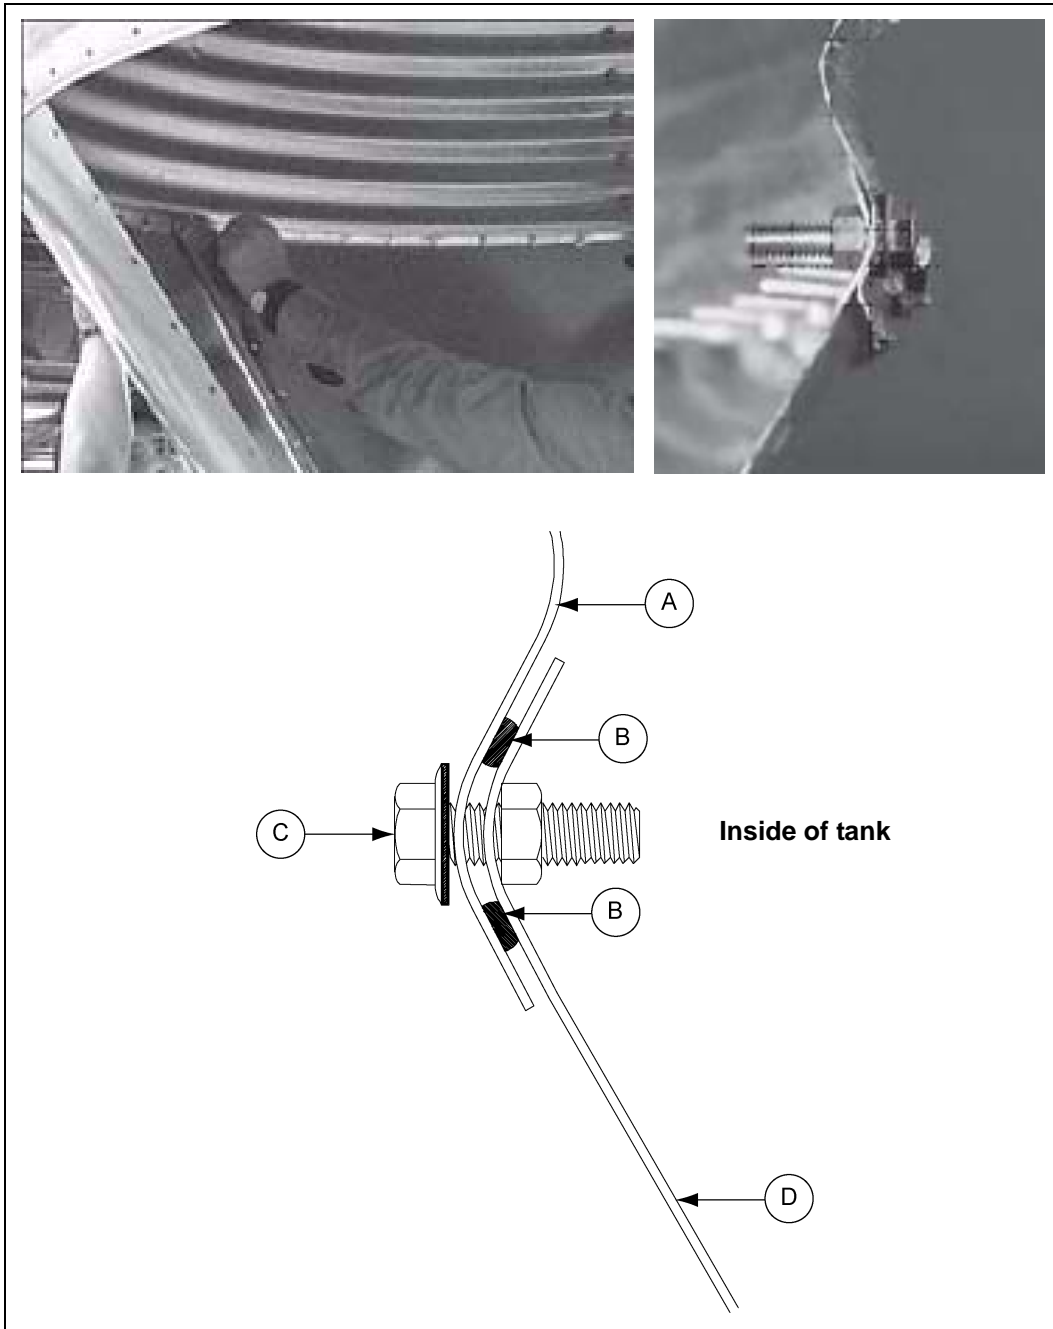

Figure 12B *Hopper Sheet to Sidewall Sheet*
When starting to attach hopper sheets to sidewall it is recommend that the first hopper sheet seam be positioned halfway between leg positions. Lap the hopper sheets as shown in Figure 12B on Page 67. Apply two (2) strips of caulking on all seams at sidewall to hopper and hopper sheet to hopper sheet. Be sure to place the head of the truss bolt on the **inside** of hopper. Leave one hopper sheet out to allow room to install hopper collar. Be sure to use two (2) strips of caulking between hopper collar and hopper sheets, then put last hopper sheet in place.